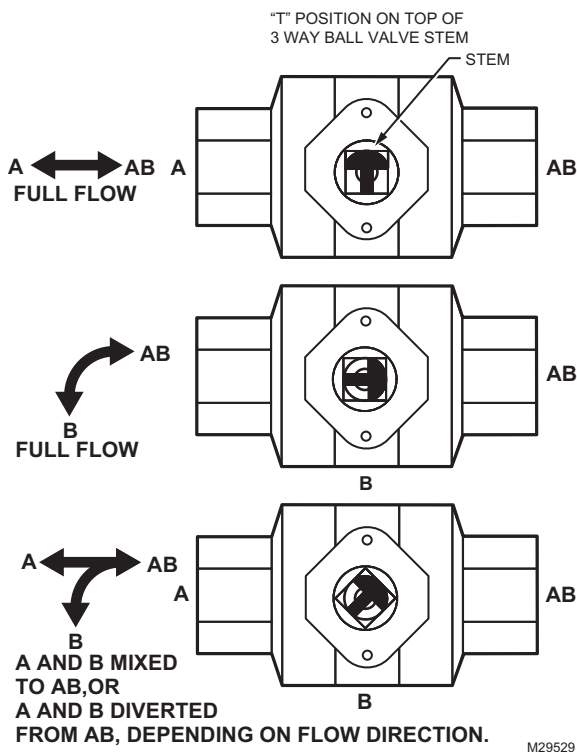

Fig. 9. Orientation of ball in valve.
three-way valves, the flow can be determined by the orientation of the “T” shaped notch in the valve stem, as shown in Fig. 9.
6. Valve must be mounted with the actuator/bracket above pipe center line. Do not install the valve with the stem below horizontal or upside down. (See Fig. 9 and 10.) Valve may leak due to settling of abrasive material on valve stem seals. When using a NEMA 3R rated weather enclosure, the actuator must be mounted directly above the valve in a horizontal pipe run.